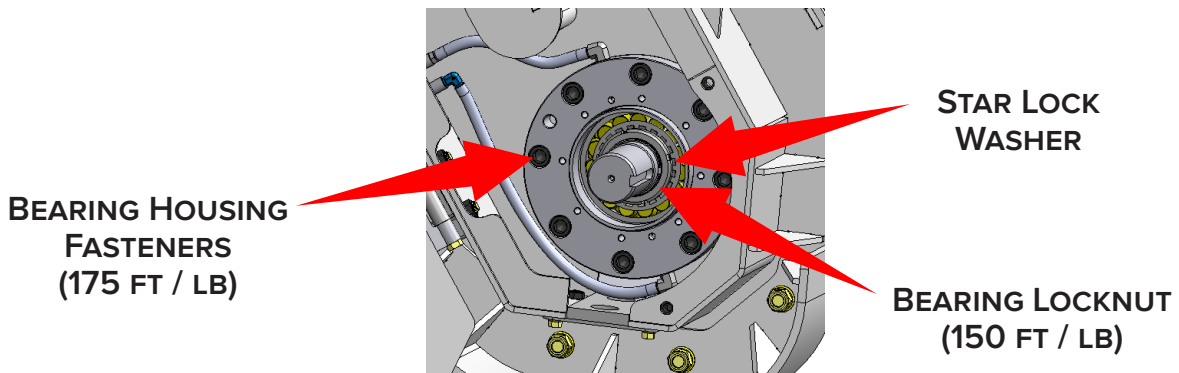

Figure 25
- With a 14 mm Allen key, torque the bearing housing fasteners to 174 ft / lb (236 N•m) with a medium strength thread locker. See Figure 25.